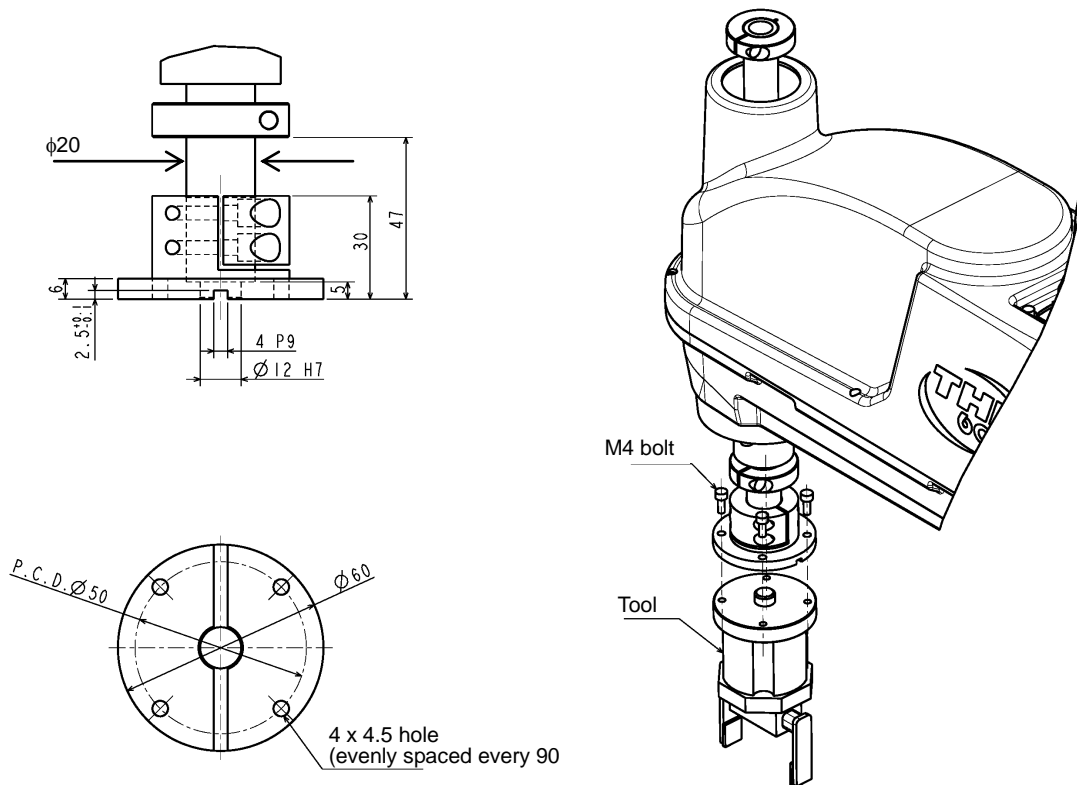

Fig. 17.1 Tool mounting dimensions (THL500, THL600 and THL700)
The tool is mounted on the end of the tool shaft. Dimensions of the tool shaft section are shown in Fig. 17.1. As shown in Fig. 17.1, the tool is centered with the  $\phi 12H7$  mating section. The tool direction is adjusted by means of the 4 x 4 keys and secured with four (4) M4 bolts.